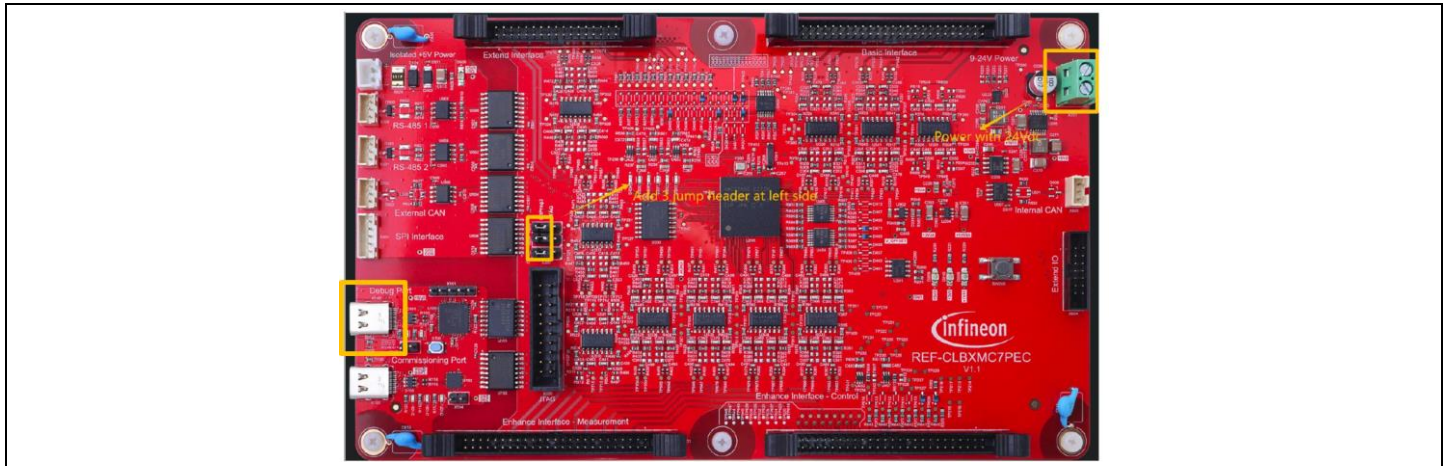

Figure 31 REF-CLBXM7PEC debug configuration
2. Add three jumper headers like shown in figure 31